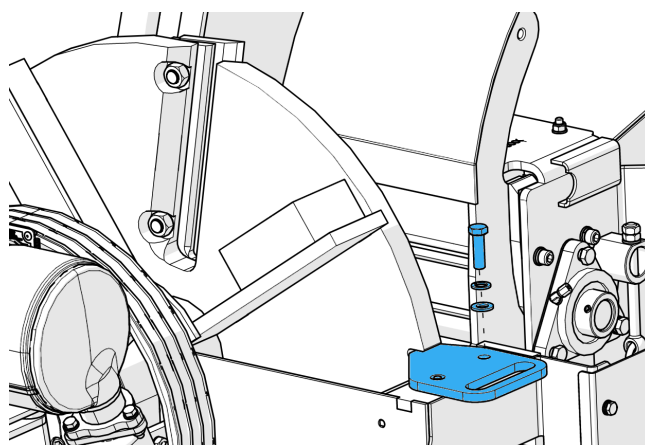

Figure 53 - Installing the flywheel locking tool
6. Turn the flywheel until it is in the locking position (Figure 53).
7. Insert the flywheel locking tool into the groove on the flywheel. The groove becomes visible once the wheel is in the correct position (Figure 53).